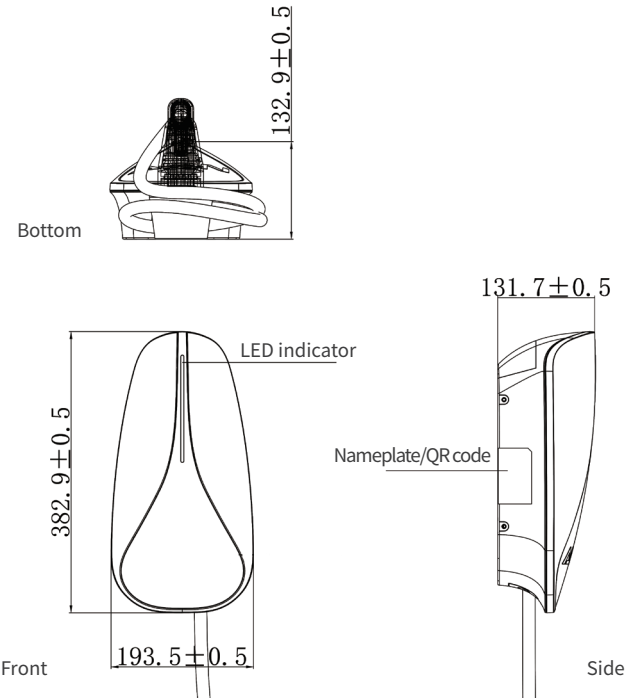

Fig. 1: Outline dimension drawing of wall-mounted installation
8.4.1 Wall-mounted installation (as shown in Fig. 1)